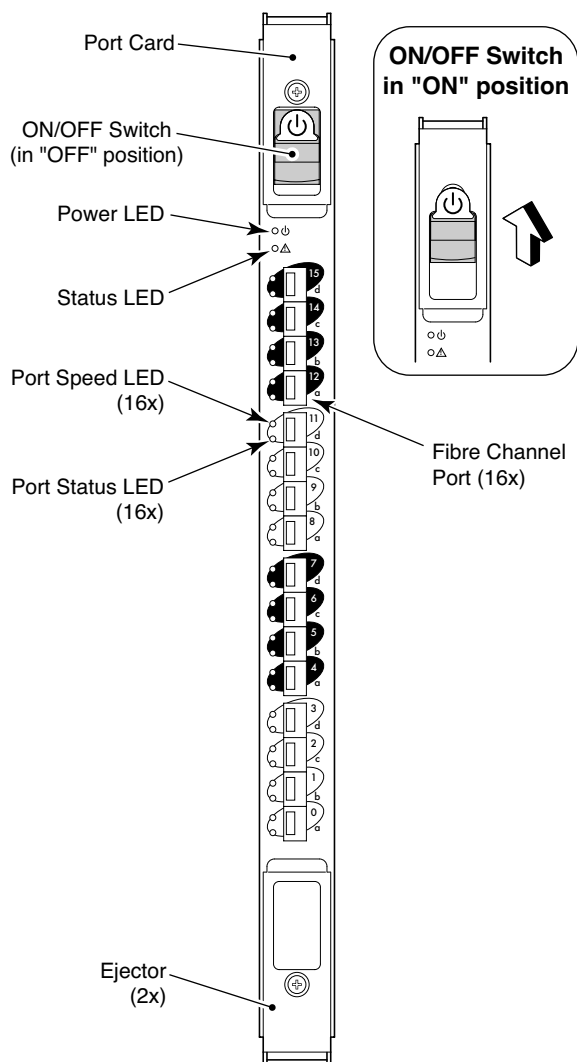

Figure 15 Front of 16-port card
1. Check the LED indicators on the port card (see Figure 15).